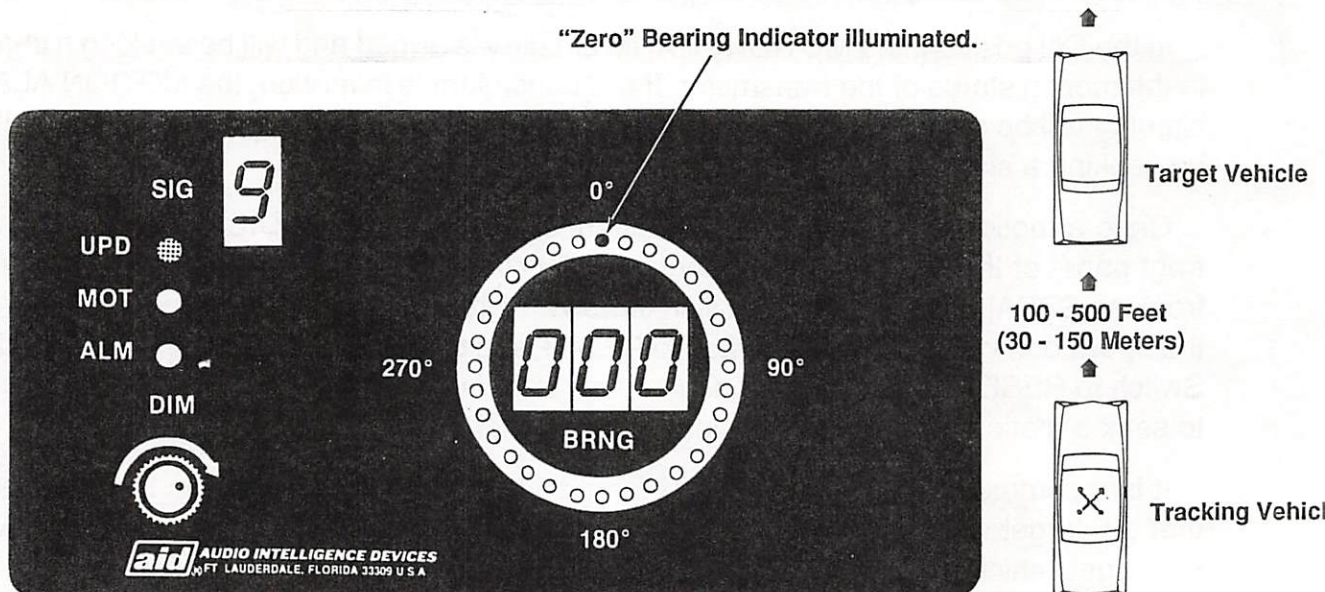

Figure 18. "Zero" Bearing Conditions.
7. The DF Indicator should appear as in Figure 18 on the previous page. Use the BEARING CALIBRATION CORRECTION Control to set the BRNG display to read "000".